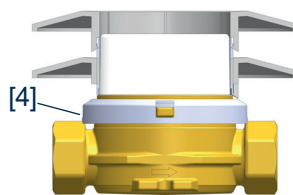

Fig. 7
- 2.18. Insert rosette and if required due to the large insertion depth, one to three extension connectors (Fig. 7).